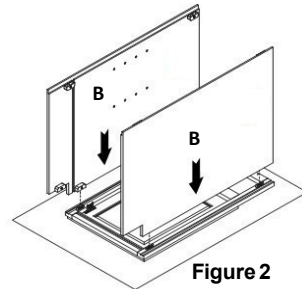
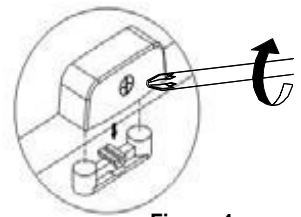

Figure 2
Figure 4
2. **Installing the Side Panels (Figure 2):** Insert right and left side panels (B) into the grooves of the face frame (A) and align the cam lock connectors (Figure 2). Lock the cam with a screw driver by turning the screw 180° clockwise (Figure 4).